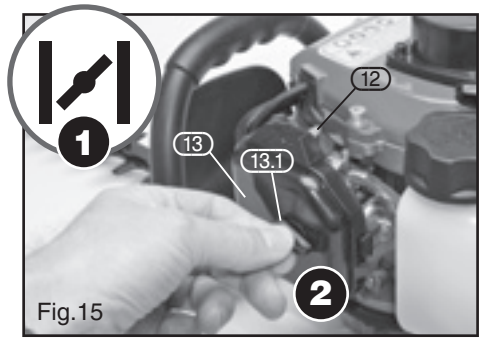

Fig.15
10.1 CLEANING THE AIR FILTER (FIGS.15 – 17)